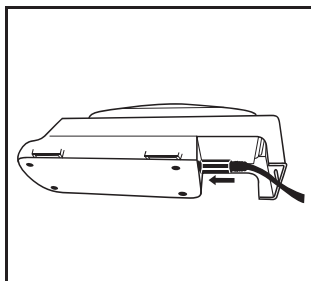

Fig. 1a
- 3M™ Single Station Battery Charger TR-641N: Insert the DC supply cord from the 3M™ Power Supply TR-941N into the cradle (Fig. 1a). Plug the power cord into an AC power source (100-240V), such as a wall outlet.